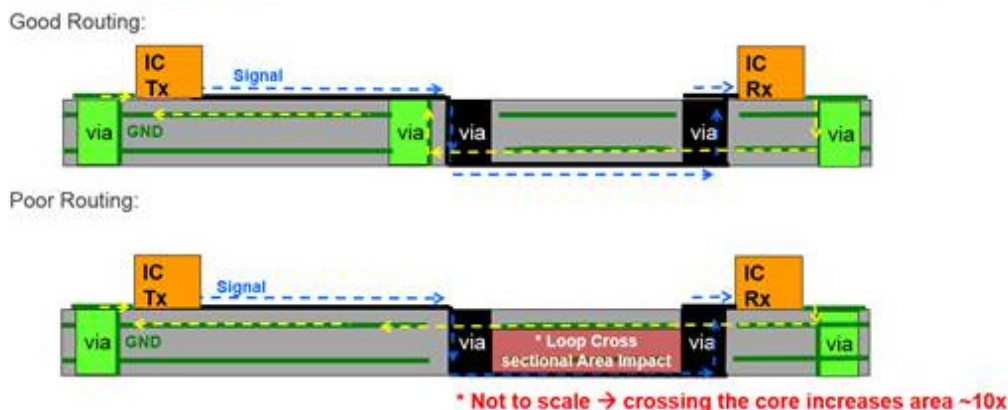

Figure 6. GND and via Signaling
6. Avoid layer transitions as much as possible to avoid via induced discontinuities. If vias are used in signal path, follow directions mentioned in Figure 6 to keep loop area as small as possible.